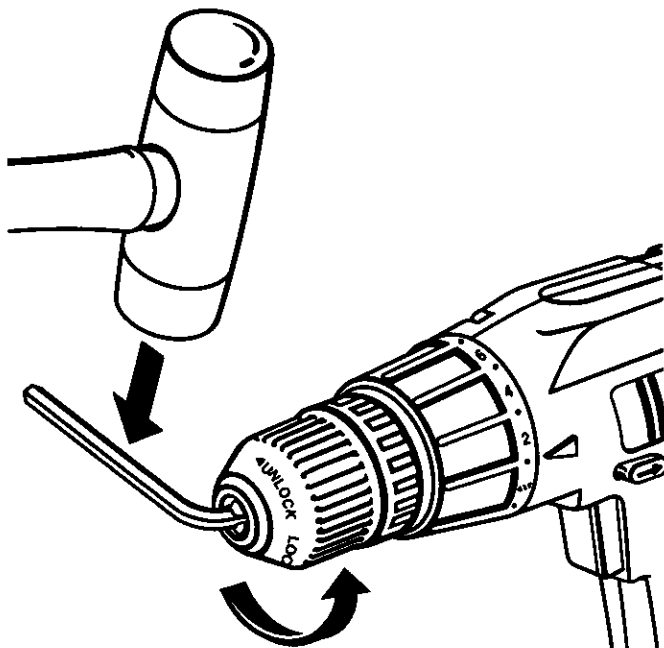

Fig. 14
- Insert hex key wrench in chuck and tighten chuck jaws securely. Tap sharply with a mallet in a counterclockwise direction. This will loosen chuck on the spindle. It can now be unscrewed by hand. See Figure 14.